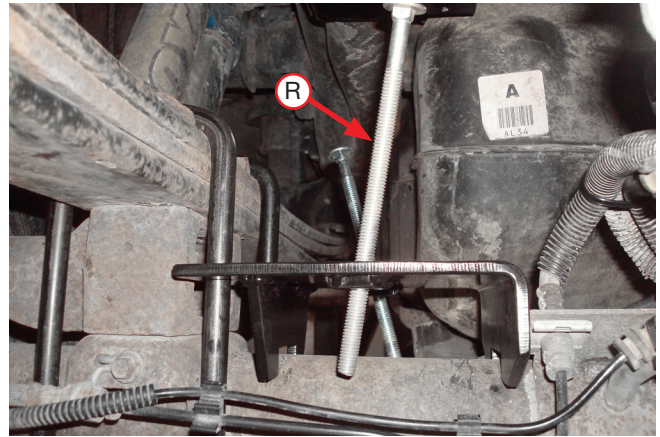
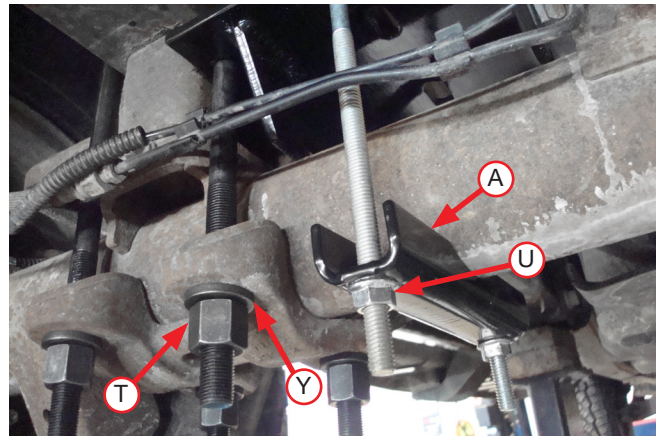

Fig. 13
Fig. 14
13. Insert the carriage bolts (R) down through the holes in the upper bracket (Fig. 13), making sure the rear carriage bolts go between the hard brake lines and the axle (Fig. 14). Turn the heads of the carriage bolts so they index into the square holes in the bracket.
Install the lower clamp bar (A) over the carriage bolts previously installed and cap with 3/8" serrated flange lock nuts (U). Tighten finger-tight only at this time (Fig. 14).